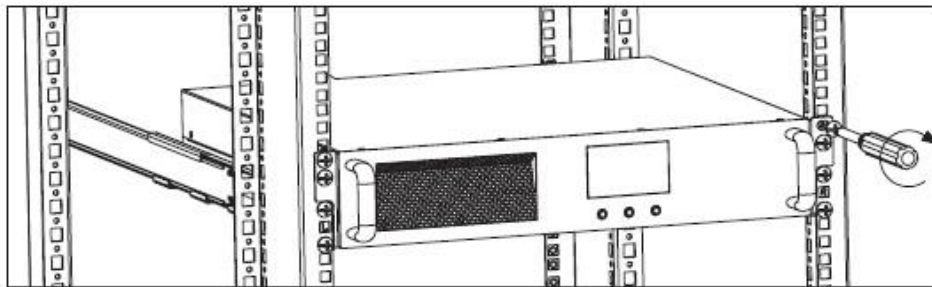

Figure 9
Step 5: Fasten each ear to the rack with the M6 screws. Refer to Figure 9 below.